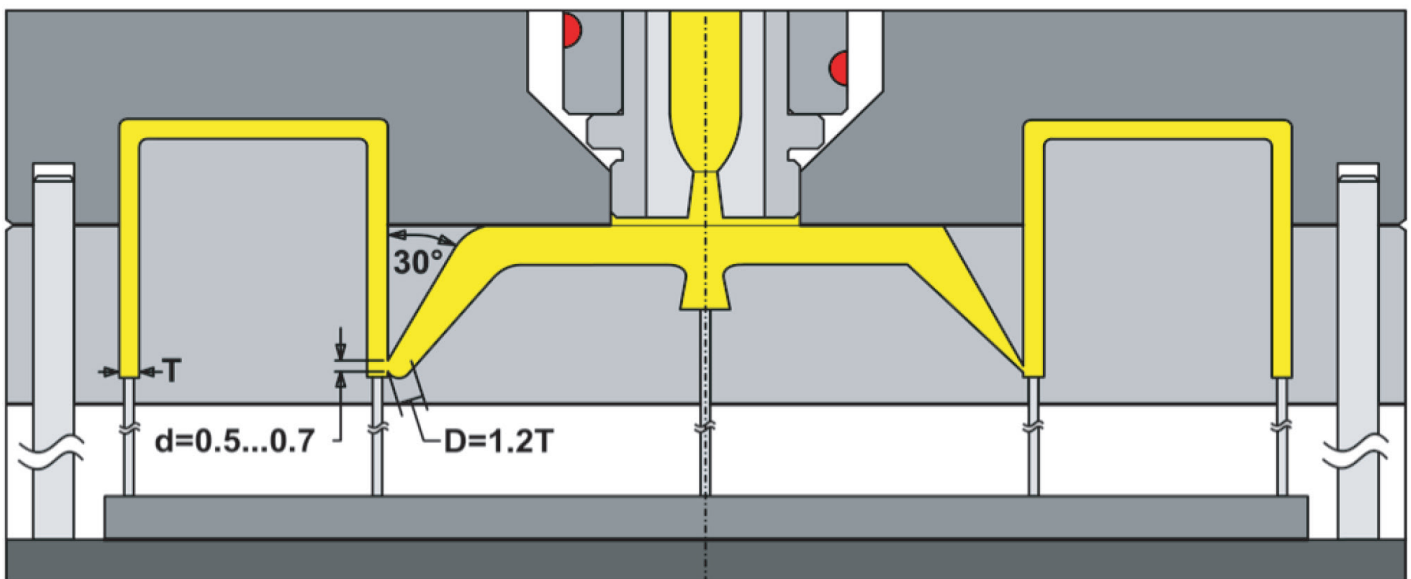

Figure 1: Indirect hot runner gating using a cold sub runner. Tunnel gate for semi-crystalline resins (left), tunnel gate for amorphous resins (right).
Cold runner and gate designs should follow the guidelines for semi-crystalline resins. It is recommended that the gate diameter (d) should be at least half of the wall thickness (T) of the part. The diameter (D) of the tunnel next to the gate should be at least 1.2 times the part thickness. The amorphous gate design shown on the right side in Figure 1 is not recommended for semi-crystalline resins due to the risk of an early freezing and therefore an insufficient hold pressure time. This can result in uncontrolled shrinkage that causes voids and/or sink marks, low mechanical performance, and dimensional problems.